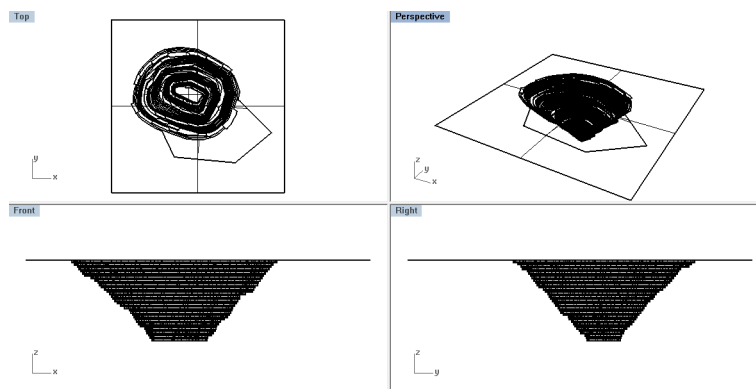

Figure 132: The pit and the surface representing the top of the box.
33. Select the box and type **_Explode** to break the box up into 6 surfaces. Select the pit and the top surface of the box, type **_Invert** and then **_Hide**. Only the pit and the top surface of the box remain visible Figure 132.